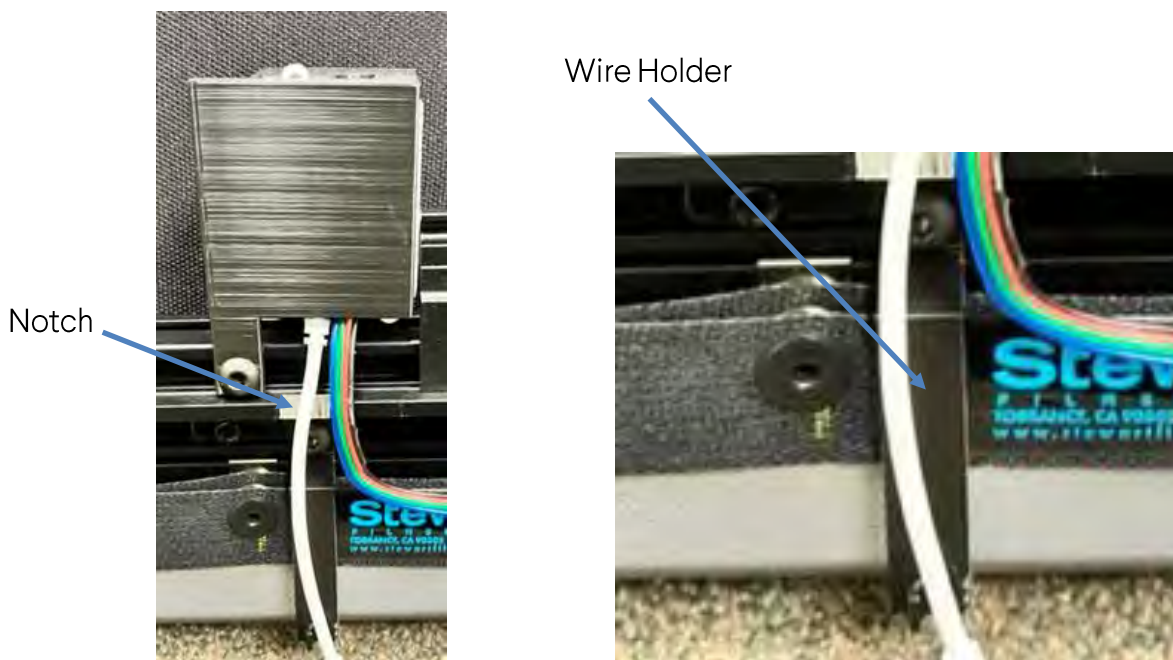

Figure 11: Control Box Attachment and wire holder
2. Using the pre-installed nut to attach the control box to the bottom right corner of the frame. Make sure that the wires go through the notch in the frame and the white wire it's clipped on the wire holder (See Figure 11).